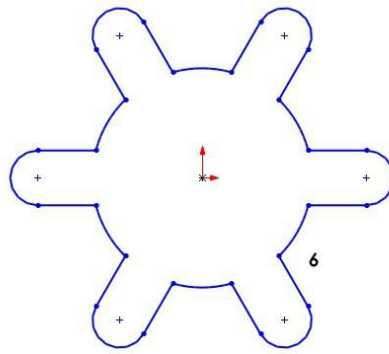

Figure 3-11 Sketch after drawing the outer loop
28. Choose **Close Dialog** after trimming. The outer loop of the sketch is created, as shown in Figure 3-11.